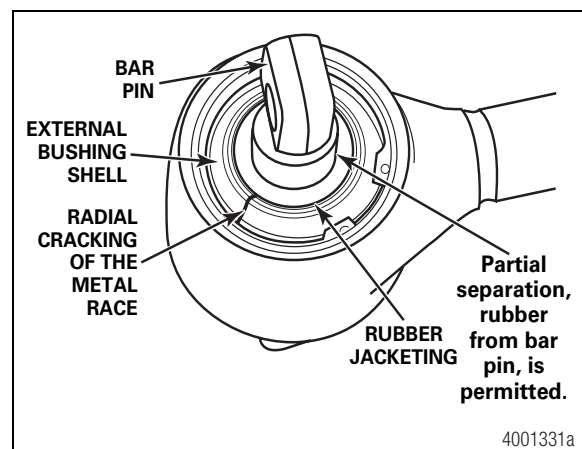

Figure 4.3
1. Cracks or fracture of the metal parts of the bushing. Figure 4.3.